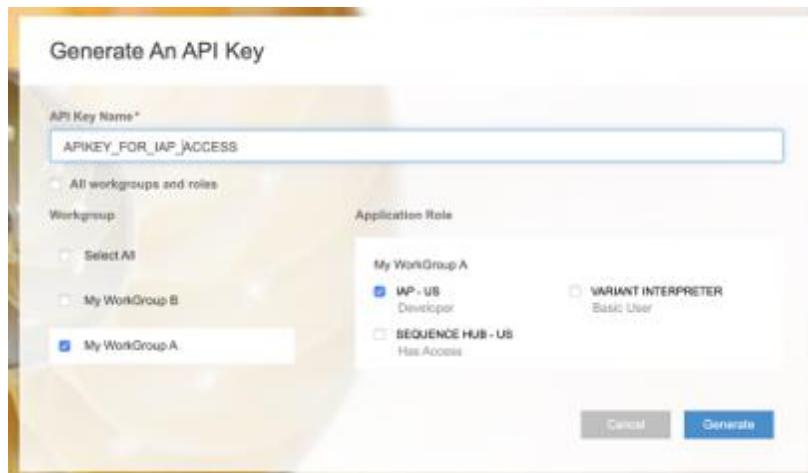

Figure 76: Generate an API Key dialog
- Click Generate to open the Generate an API Key dialog (**see Figure 76**).